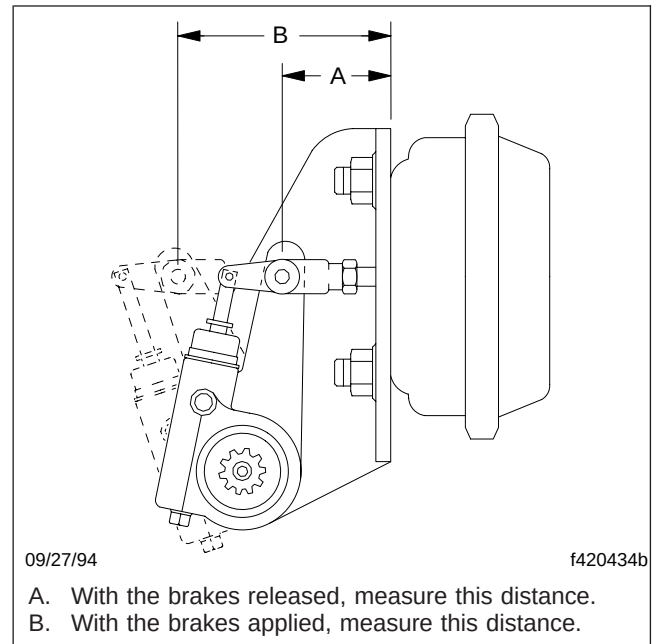

Fig. 11, Brake Stroke Check, Gunite Automatic Slack Adjuster
- 3.1 With the brakes fully released, use a ruler to measure the distance from the bottom of the brake chamber to the center of the large clevis pin. See Fig. 11, Ref. A.
- 3.2 Build air pressure to at least 85 psi (585 kPa). Apply the brakes, then measure the distance from the bottom of the brake chamber to the center of the large clevis pin. See Fig. 11, Ref. B. The difference between the measurements is the brake chamber stroke.